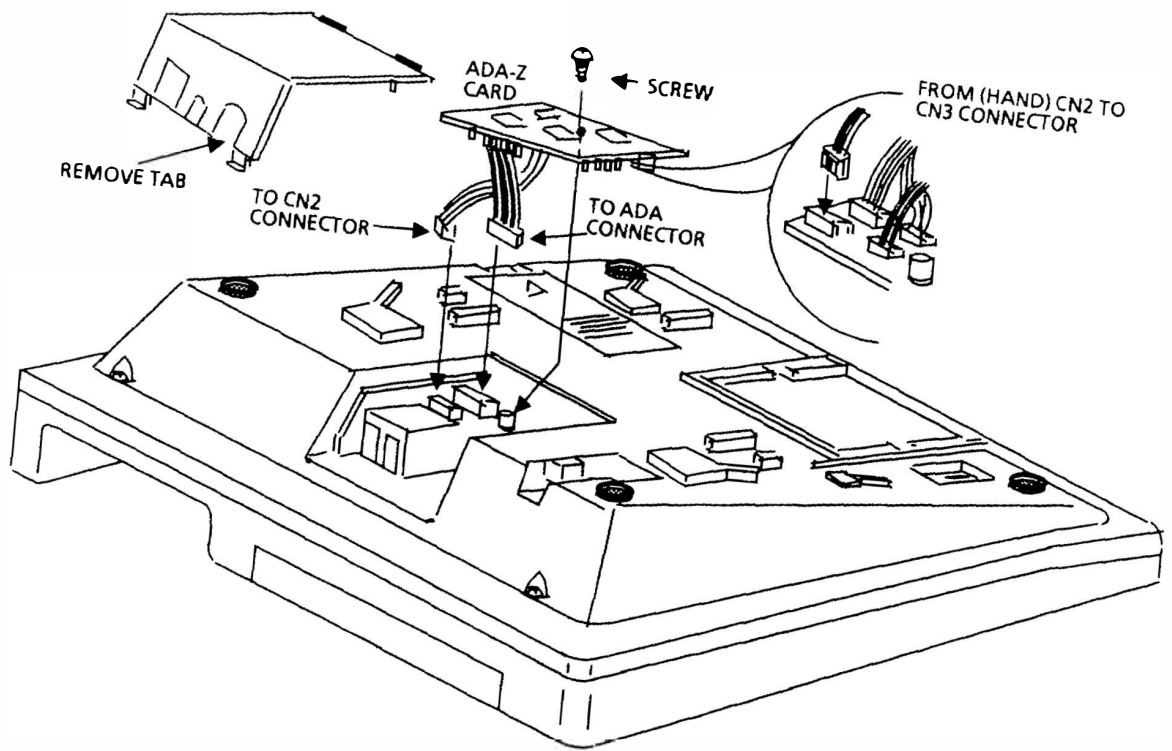

Figure 2 ADA-Z Unit Installation
- 4.11 Install the ADA-Z Unit and secure it with the screw provided as shown in Figure 2.